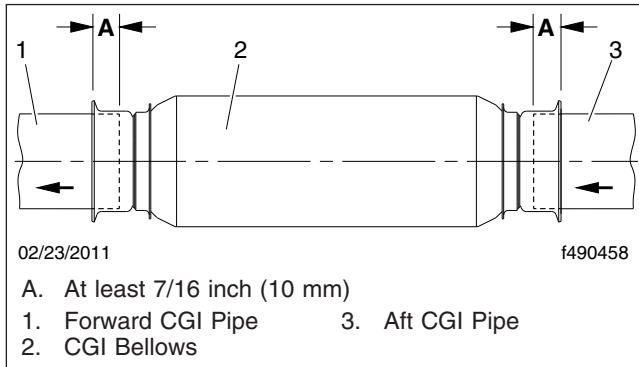

Fig. 9, CGI Bellows Installation
12. Slide the new bellows onto the aft CGI pipe as far as it will go. See **Fig. 9**, Ref. A. Measurement A should be at least 7/16 inch (10 mm) past the face of the flange.
16. Using the yellow marks, center the bellows between the exhaust pipes. Verify that the pipe is inserted at least 7/16 inch (10 mm) past the face of the flange. See Fig. 9, Ref. A.